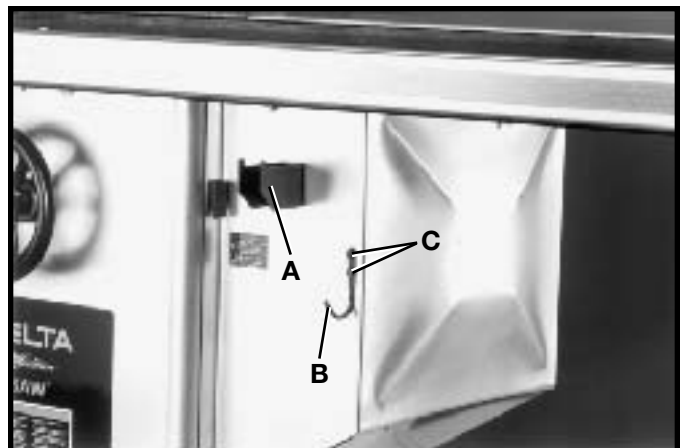

Fig. 45
1. Assemble the miter gage holder bracket (A) Fig. 45, and wrench holder bracket (B) to the four thru-holes on the front of the motor cover using the four 1/2 self-tapping screws supplied, two of which are shown at (C).